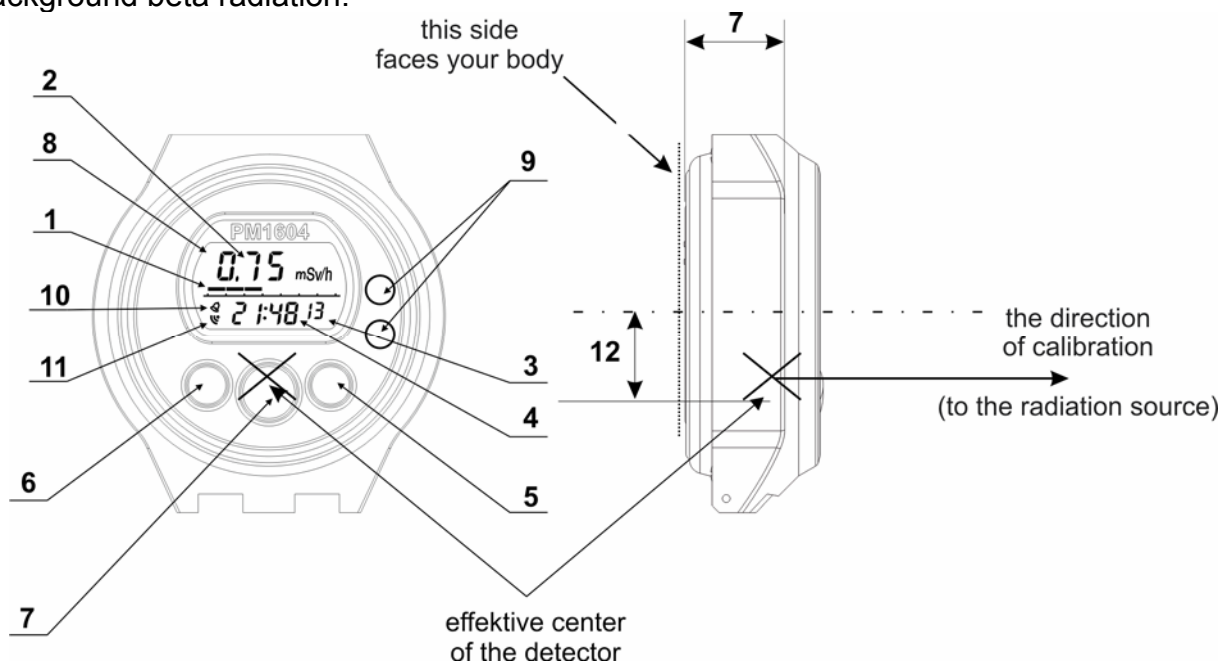

Figure 1.2 – General overview of the dosimeter
1.4.2 The dosimeter is designed as a unit housed in a shock-proof case. General overview of the dosimeter and its parts are shown in Figure 1.2. Indication elements, positions **1-4**, are there on the LCD (**8**).
A direction of calibration and the detector effective center relative to which the factory calibration is performed are shown on Figure 1.2. The total surface density of the walls surrounding the detector is 1 g/cm^2 that provides the detector shielding from the background beta radiation.
On a display (2), figure 1.2 – DER values output;
On a display (2), figure 1.2 – DE values output;
On a display (2), figure 1.2 – dosimeter’s number;
On a display (2), figure 1.2 – the symbol “AL” of the alarm clock mode;
On a display (2), figure 1.2 – the symbol “TR” of the timer mode;
On a display (2), figure 1.2 – the symbol “ST” of the stop-watch mode and decimal parts of a second;
On a display (2), figure 1.2 – the day of the week;